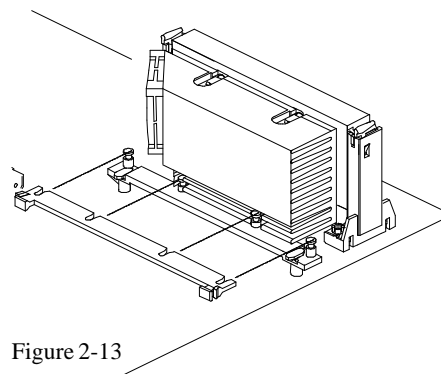

Figure 2-13
4. Insert the Pentium II into the RM firmly (Please refer to "Install Pentium II processor" section), Slide the Heat Sink Top Bar (HSSTOP) on the supports forward to clip onto the HSSBASE through the fins of Heat Sink. (Refer to Figure 2-13)